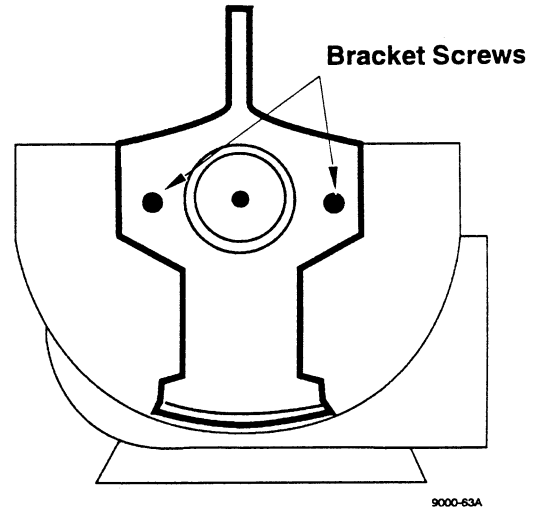

Figure 5-30. Fan Motor Bracket
7. Remove two Screws from the Fan Motor Bracket. Figure 5-30.